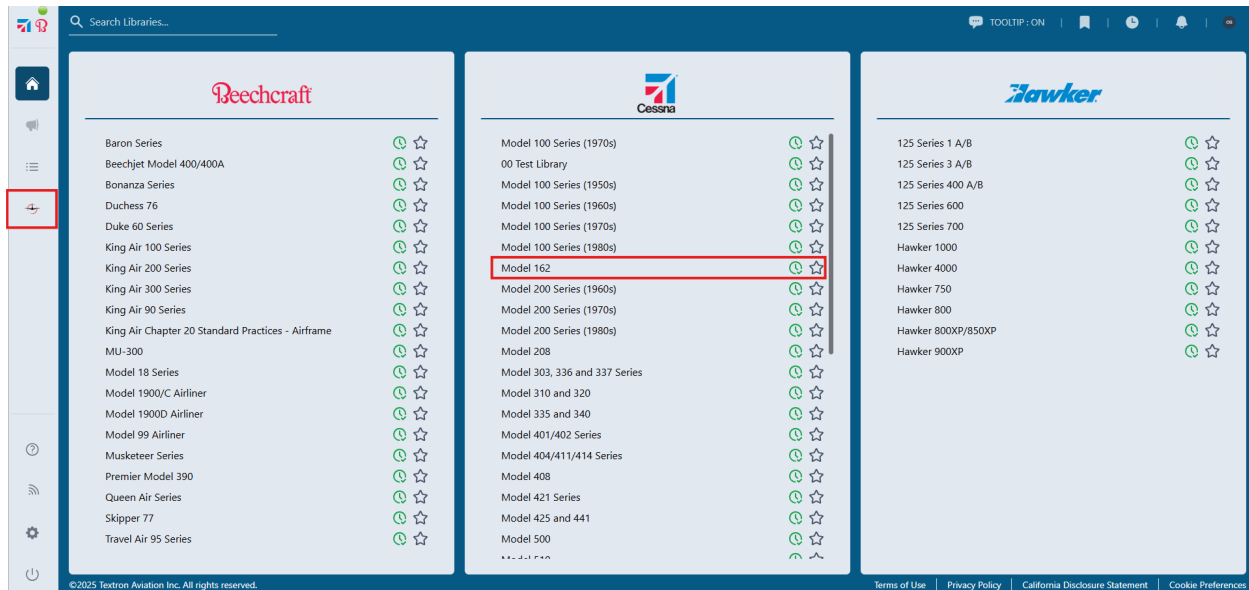

Figure 2 - 1View Homepage with aircraft and McCauley libraries highlighted.
1. The 1View Homepage is displayed upon login to the 1View application (Refer to Figure 2).